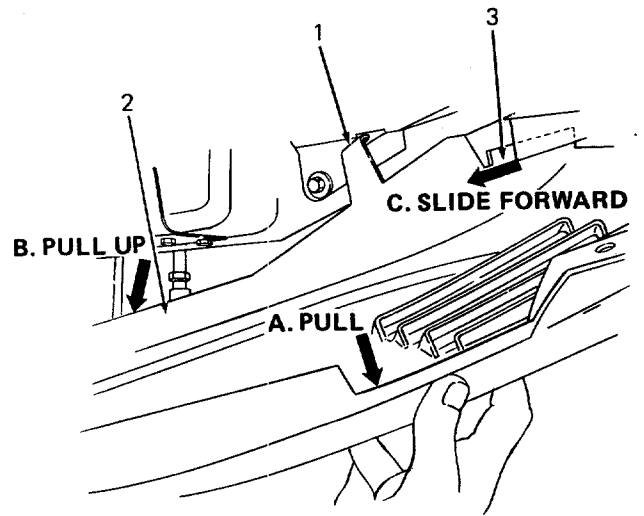

Figure 15
To remove lock tab, (A) gently pull front of side panel towards you and (B) pull up. Then (C) slide side panel forward to disengage dash panel lock. (Refer to Figure 15.)